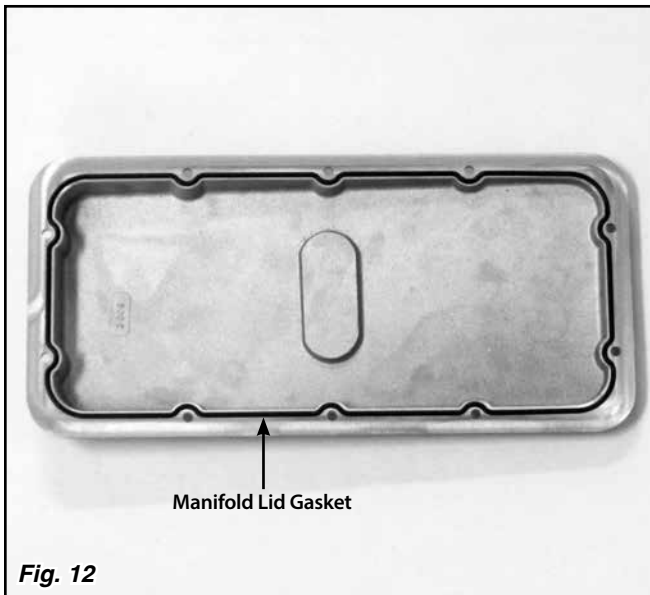
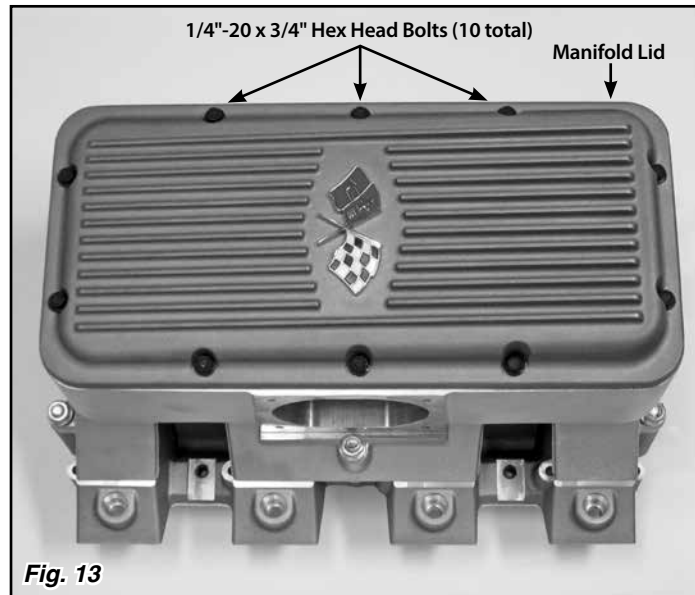

Fig. 12
Fig. 13
Step 10: Install the manifold lid gasket into the groove in the underside of the manifold lid. **Fig. 12** Place the manifold lid into position on top of the upper manifold. Apply thread sealant to each of the ten 1/4"-20 x 3/4" hex head bolts, and thread them in finger tight. Then, starting with the two center bolt holes, tighten the bolts using a crisscross pattern in two steps: 7 lb.-ft. for the first step, and 12-15 lb.-ft. for the second step. **Fig. 13**